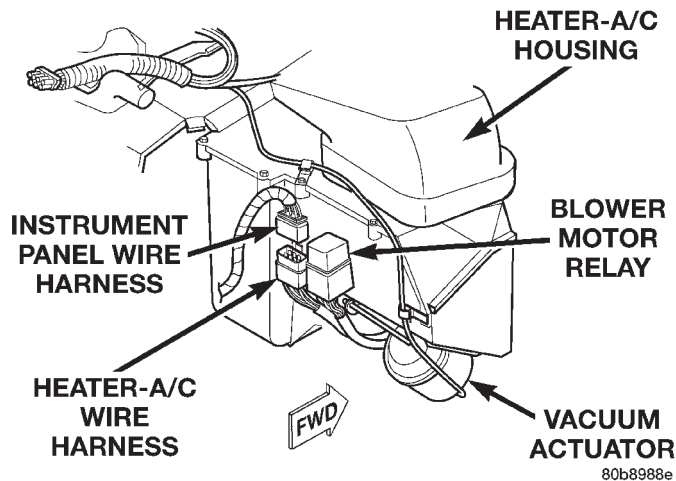

Fig. 42 Blower Motor Relay Remove/Install
(1) Disconnect and isolate the battery negative cable.
(2) Remove the glove box from the instrument panel. Refer to Glove Box in Group 8E - Instrument Panel Systems for the procedures.
(3) Locate the blower motor relay through the instrument panel glove box opening. The relay is mounted upright and to the right of the instrument panel harness. (Fig. 42).
(4) Unplug the blower motor relay from its wire harness connector.